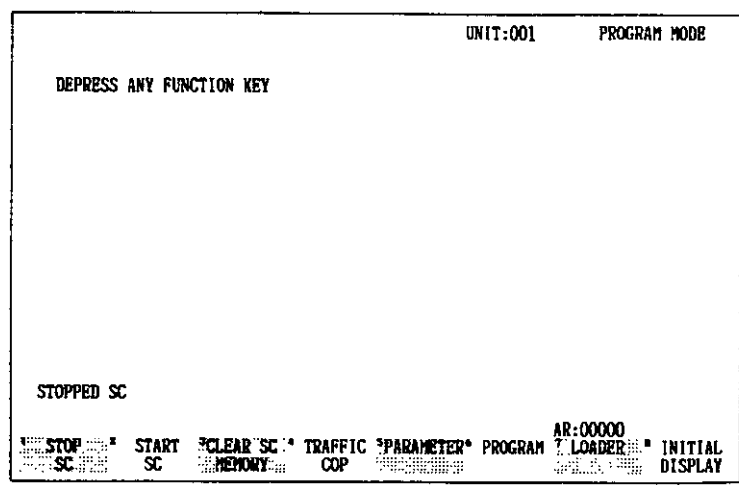

Fig. 3.7
VISRY key after ATTACH activation produces the display shown in Fig. 3.7, enabling the SUPERVISORY operations indicated in the label area.
3. Depressing **PREVIOUS MENU** key calls Fig. 3.7.
3. Depressing the **PREVIOUS MENU** key after completion of parameter setting returns the display to the supervisory display (See Fig. 3.7)